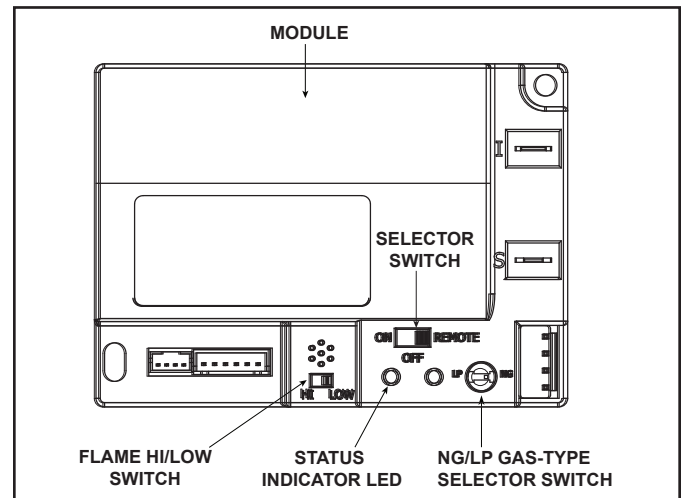

Figure 19. Control Module
- Move switch to OFF (See Figure 19, page 27).
1. The control module has an ON/OFF/REMOTE selector switch that must be set. See Figure 19.
2. If using a wired wall switch with the module in REMOTE mode, the flame output can be adjusted with the HI/LO selector switch on the module. See Figure 19. Note that the flame HI/LO selector switch will become inactive once a remote control (RC300) is programmed to the control module. Note that the control module will always ignite the fireplace on HI and remain so for the initial 10 seconds of operation. If the HI/LO is switched to the LO position, the flame output will automatically drop to the lowest setting after the flame has been established for 10 sec. After this 10 second period, the flame can be adjusted from HI to LO with the switch.
- Locate the module selector switch. (See Figure 19).